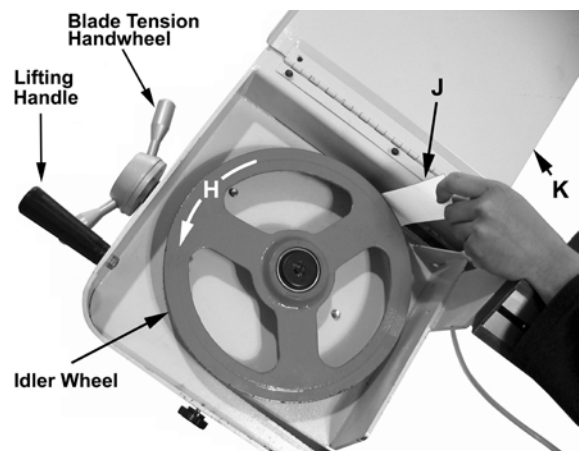

Figure 14
2. Raise the *saw head* (A) as shown.
3. Open the *wheel guards* (B).
4. Remove both of the *blade-guide bearing bracket assemblies* (C).
5. Loosen three *hex locking screws* (E) in the *head weldment* (G).
6. Start the saw. Turn the *adjustment screws* (F) to tilt the *idler wheel* (Figure 14) until the blade is touching the shoulder of the idler wheel.
**Note:** As a general rule, make the *same adjustment* to the two *adjustment screws* on the right (F). The single adjustment on the left is independent.
7. Next, turn the *adjustment screws* (F) so the blade starts to move away from the shoulder of the wheel – then immediately turn the adjustment screws in the other direction so the blade stops – then moves slowly toward the shoulder.
8. Turn the *adjustment screws* (F) to stop the motion of the blade on the wheel as it gets closer to the wheel shoulder.
Put a 6-inch length of *paper* (J, Fig. 14) between the blade and the wheel as shown (the saw is still turned on). The paper should not be cut as it passes between the wheel shoulder and the blade.
15. Close the *wheel covers* (K, Fig. 14).